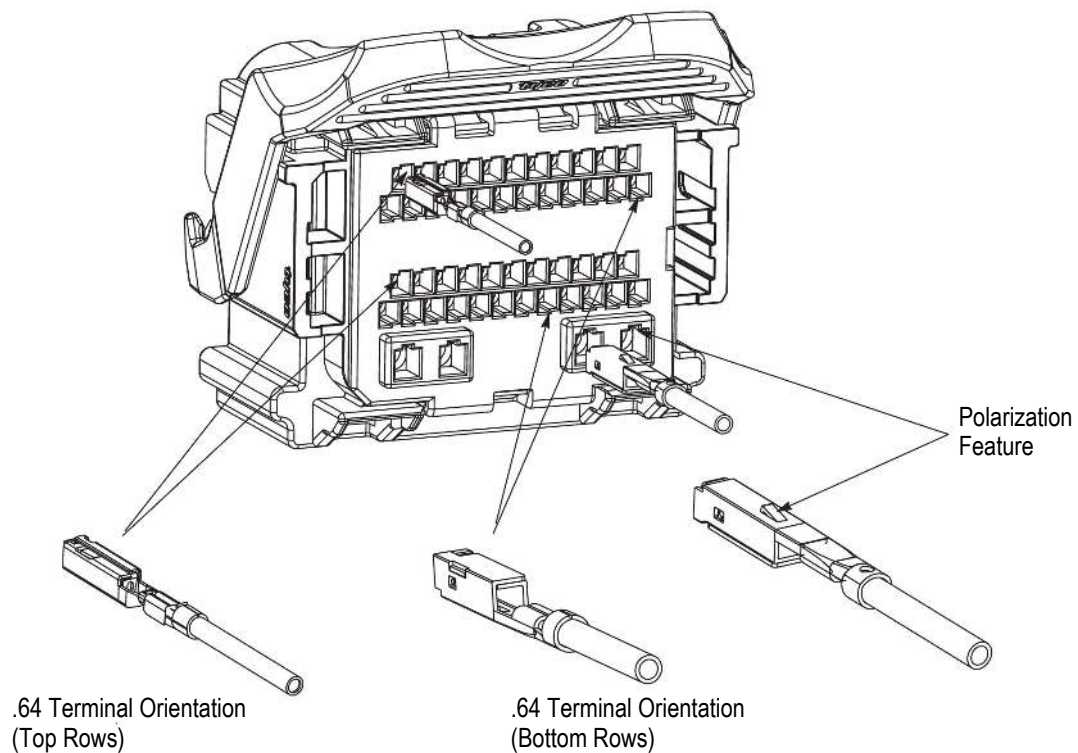

Figure 3
2. Grasp a terminal approximately 2cm behind the crimp and orient it as shown Figure 3 relative to the harness.